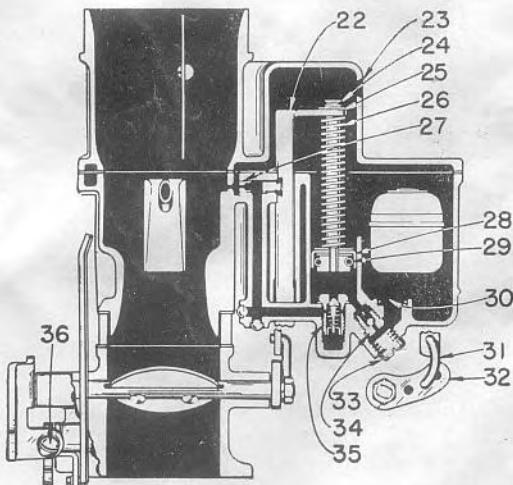
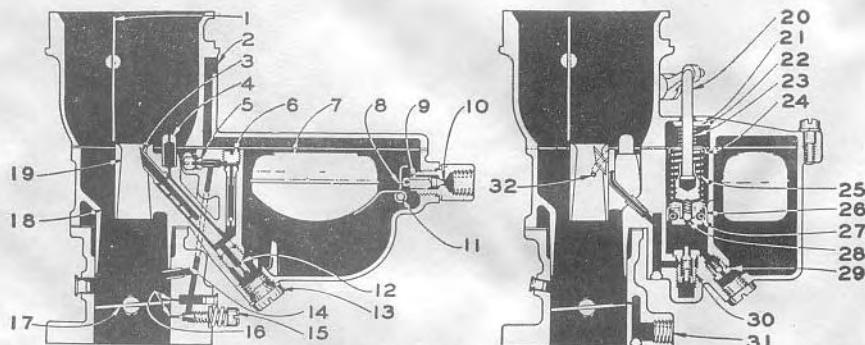

Fig. 15—Schematic Internal Views of BXOV-26 Carburetor Used on Model 1800
Fig. 16—Schematic Views of Code 10-33A Carburetor Used on Model 1801 Cars
**Idle Mixture Adjustment**—Turn idle adjusting needles "17" Fig. 15 or "15" Fig. 16 out for richer idling mixture. Standard adjustment for the 1800 is one to  $1\frac{1}{4}$  turns open; for the 1801 cars 2 to  $2\frac{1}{2}$  turns open.